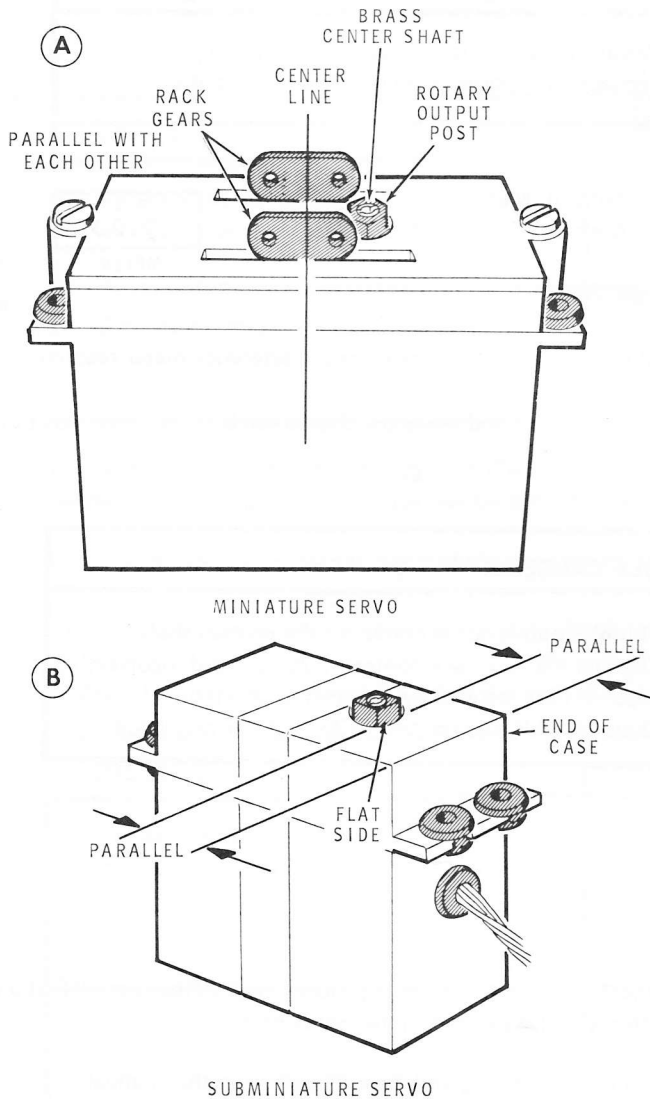

Figure 1-4
- () Insert a small screwdriver in the slot in the brass center shaft. Then turn the brass center shaft until the output post or rack gears are positioned as shown in Figure 1-4.